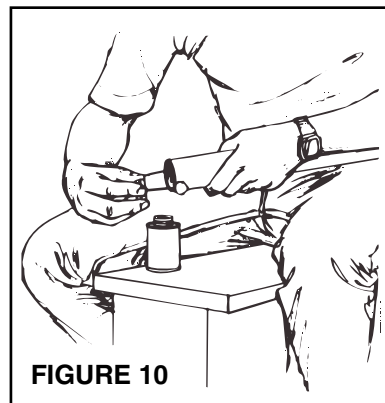

FIGURE 10
6. **Refer to Figure 10.** Apply cement (Model 379) to outside of tubing. Coat tubing approximately 1" back. Take care to keep cement from inside of tube.